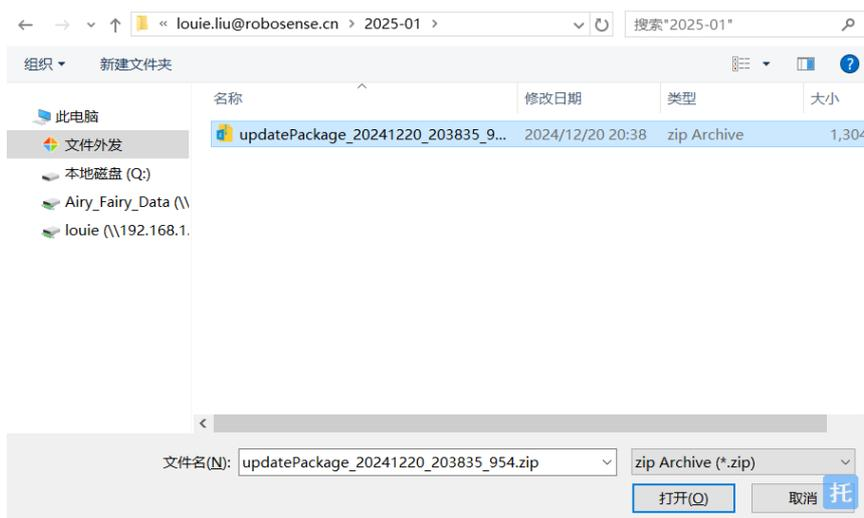

Figure 20 Select the File in the Path where the Upgrade Package is Stored
- 2) Select the folder corresponding to the firmware to be upgraded, select the firmware to be upgraded, and click "Open" (no Chinese characters appear in the path), as shown in Figure 20 ;